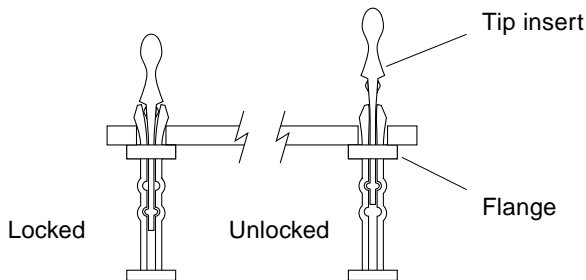

FIGURE 4-11 Locking and Unlocking Standoffs
Nylon standoffs lock the SBus cards to the I/O+ boards (FIGURE 4-11).
See FIGURE 4-11 on page 4-14.
8. Unlock the tip inserts of the two standoffs for the SBus slot (FIGURE 4-11 on page 4-14).